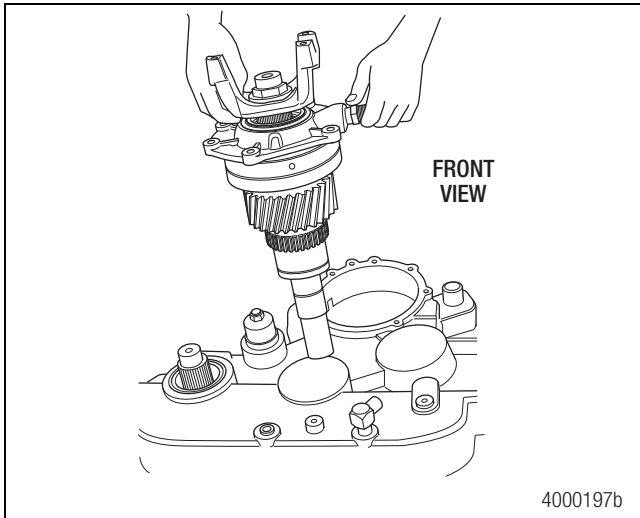

Figure 5.3
8. Remove the input bearing cage and input shaft assembly from the transfer case. If necessary, use a yoke puller or an appropriate lifting device. It may be necessary to gently pry the input bearing cage up to dislodge it from the transfer case. Figure 5.3.